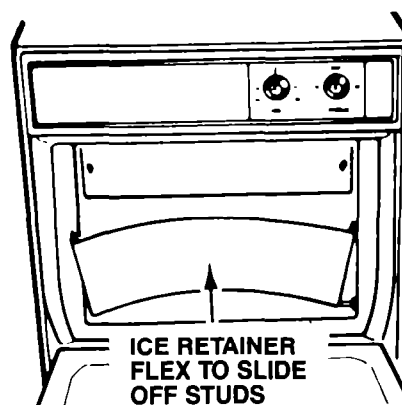

FIGURE 6
11. Remove ice retainer baffle, Figure 6.